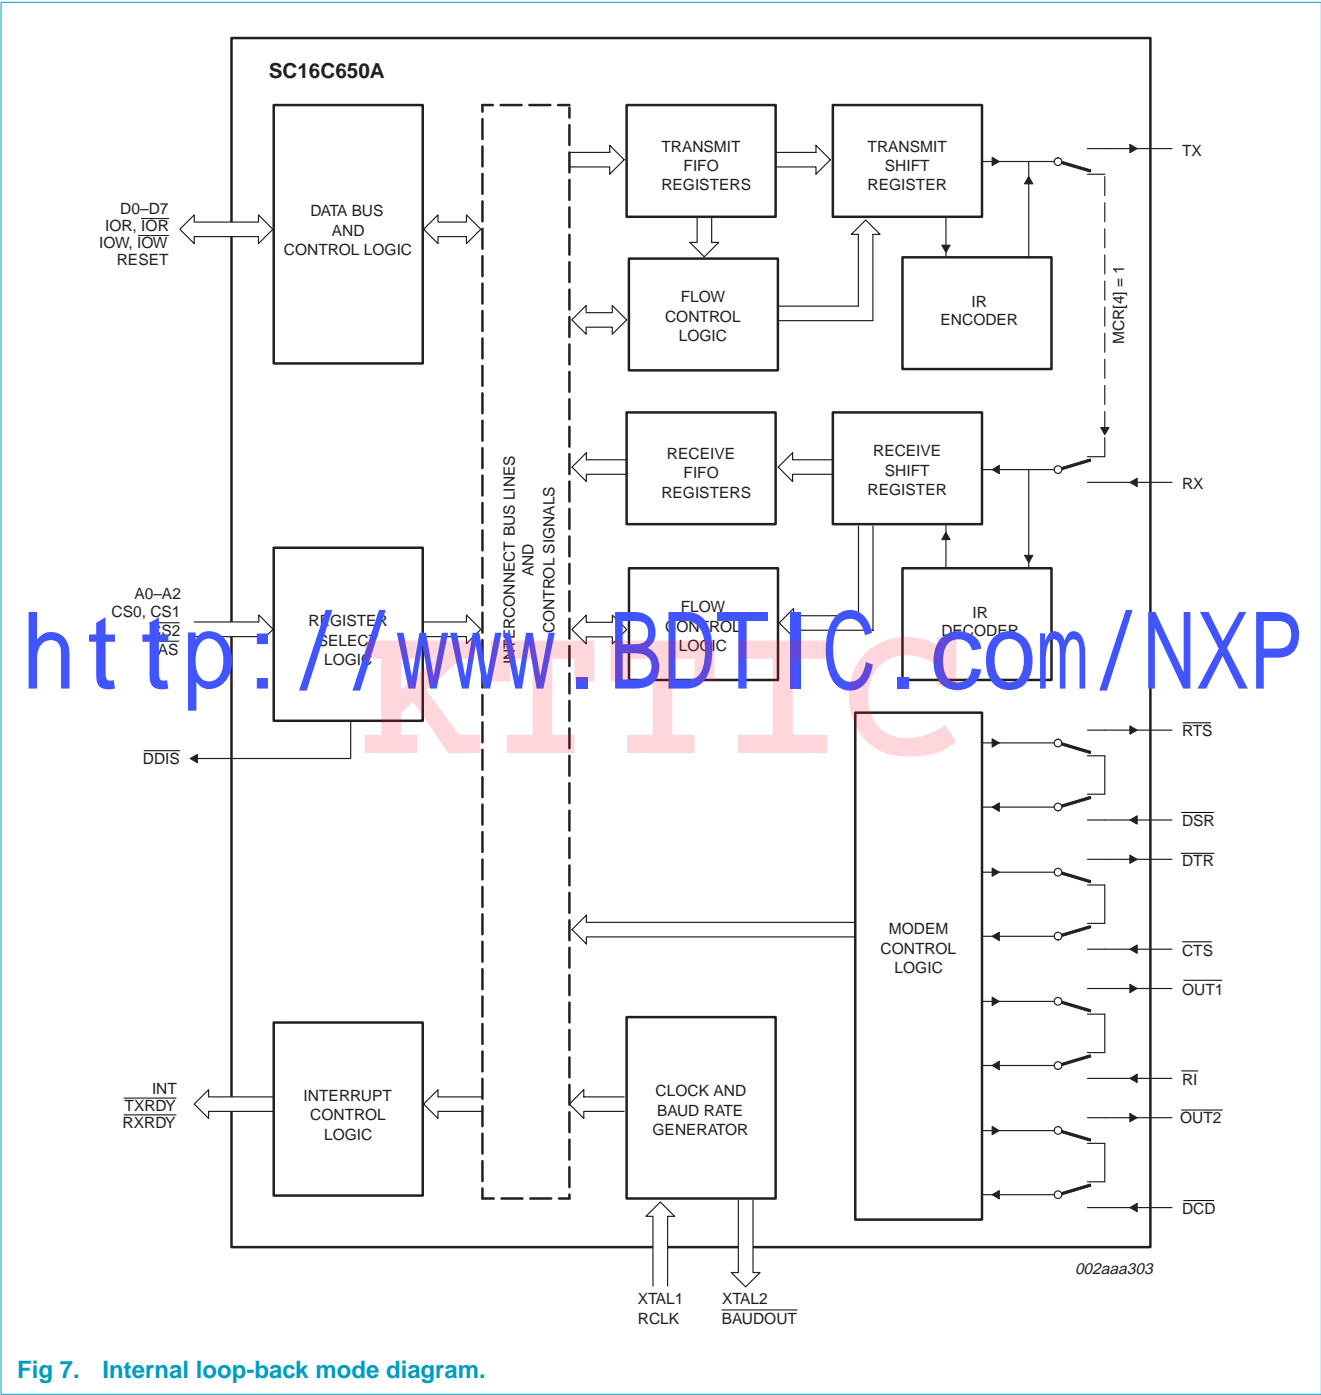

Fig 7. Internal loop-back mode diagram.
The internal loop-back capability allows on-board diagnostics. In the loop-back mode, the normal modem interface pins are disconnected and reconfigured for loop-back internally. MCR[0-3] register bits are used for controlling loop-back diagnostic testing. In the loop-back mode, OUT1 and OUT2 in the MCR register (bits 2-3) control the modem $\overline{\text{RI}}$ and $\overline{\text{DCD}}$ inputs, respectively. MCR signals $\overline{\text{DTR}}$ and $\overline{\text{RTS}}$ (bits 0-1) are used to control the modem $\overline{\text{CTS}}$ and $\overline{\text{DSR}}$ inputs, respectively. The transmitter output (TX) and the receiver input (RX) are disconnected from their associated interface pins, and instead are connected together internally (see Figure 7). The $\overline{\text{CTS}}$, $\overline{\text{DSR}}$, $\overline{\text{DCD}}$, and $\overline{\text{RI}}$ are disconnected from their normal modem control input pins, and instead are connected internally to $\overline{\text{DTR}}$, $\overline{\text{RTS}}$, OUT1 and OUT2. Loop-back test data is entered into the transmit holding register via the user data bus interface, D0-D7. The transmit UART serializes the data and passes the serial data to the receive UART via the internal loop-back connection. The receive UART converts the serial data back into parallel data that is then made available at the user data interface D0-D7. The user optionally compares the received data to the initial transmitted data for verifying error-free operation of the UART TX/RX circuits.